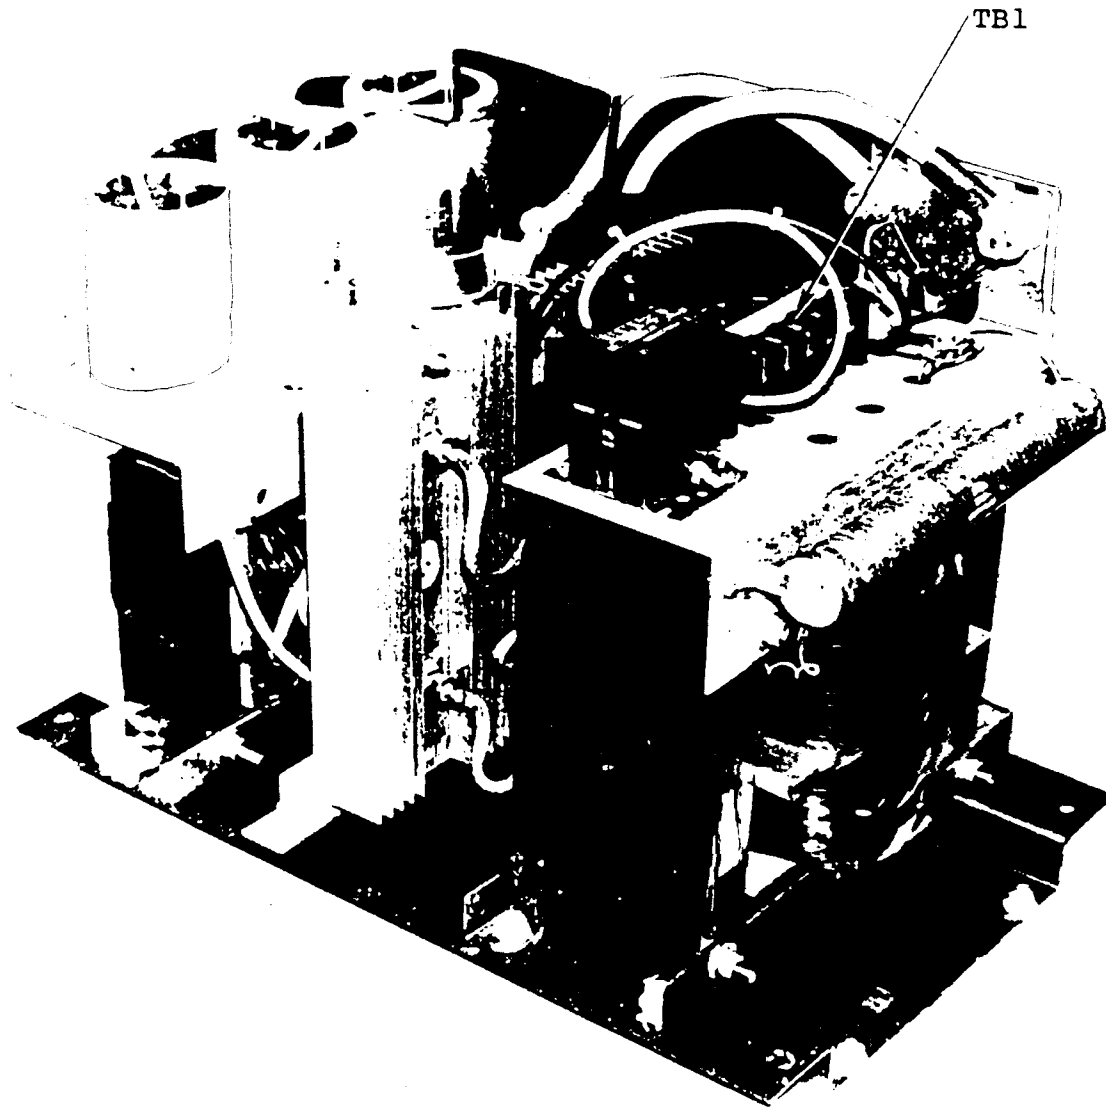

FIGURE 4-6
4.5 DESCRIPTION OF CONTROLS - 2000 WATT AND 3000 WATT POWER SUPPLIES (See Figure 4-6)
- b. Remove the lower panel on the operator side of the console and locate terminal board TB-1 (see Figure 4-6).